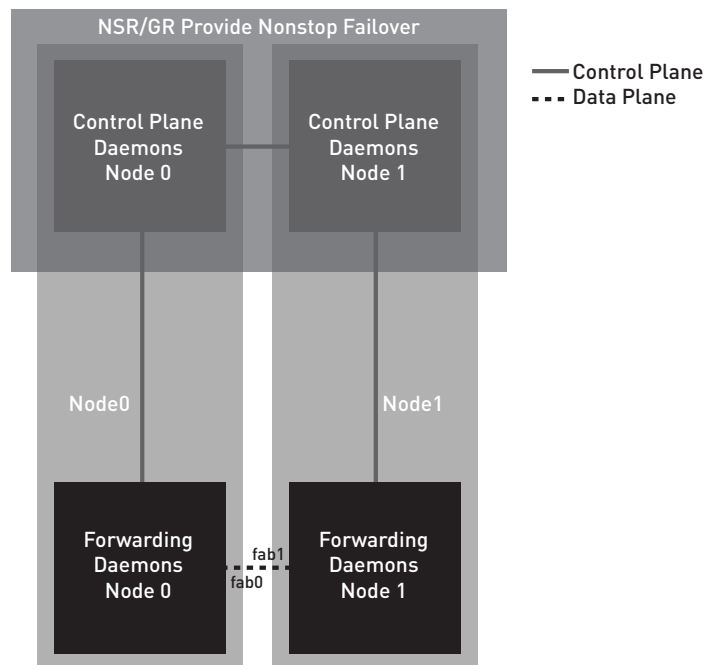

Figure 2: Device clustering
When enabling chassis cluster for J Series routers, JUNOS uses a similar model—less the nonstop routing state replication—to provide control plane redundancy as shown in Figure 2.
After clustering is enabled, interfaces ge-0/0/2 and ge-0/0/3 are renamed to fxp0 and fxp1, respectively. As seen in Figure 2, fxp1 provides control plane communication between the nodes in the cluster, and fxp0 provides management access and is limited to host traffic only. Traffic received through the fxp0 interface will not be forwarded to any other interface in the system.
2. Define the interfaces used for the FAB connection. These interfaces must be connected back to back, or through a Layer 2 infrastructure, as shown in Figure 2. As expected, fab0 is the fabric interface of node0, while fab1 is the fabric interface of node 1.